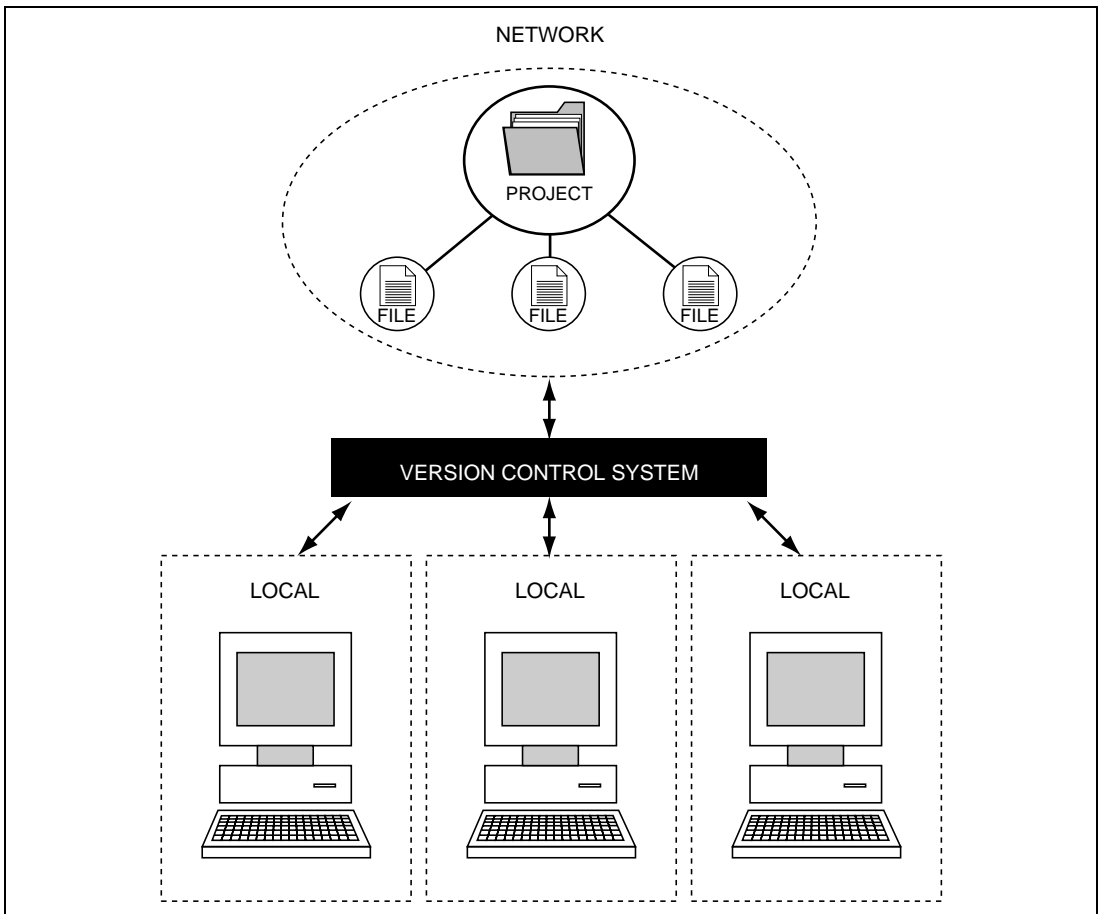

Figure 7.1: Version Control
* MERGEFORMAT Figure 7.1 illustrates a typical project where a version control system is in use. This shows three users who all use the same-shared network drive to exchange source code. The version control system provides access and updates to the source files.